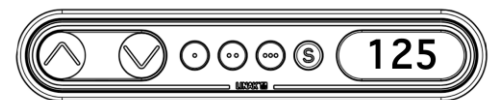
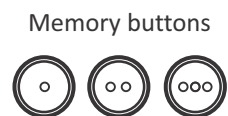

Fig. 2
Fig. 3
The desk panel is operated by pressing and holding the up or down buttons to lift or lower the desk worktop. Release the button when you have reached your requested position (Fig 2).
2. Press the 'S' button (Fig. 2), (an 'S' appears in the display) and then one of the three memory buttons (Fig. 3). The memory button number 1, 2 or 3 appears in the display. Your position has now been stored.